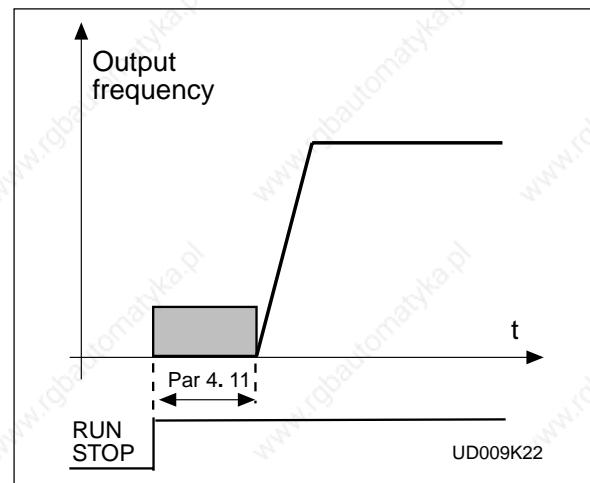

Figure 6.5-15 DC-braking time at start
- >0** DC-brake is activated when the start command is given and this parameter defines the time before the brake is released. After the brake is released output frequency increases according to the set start function parameter 4. 6 and acceleration parameters (4. 3, 4. 1 or 4. 2, 4. 3), see figure 6.5-15.